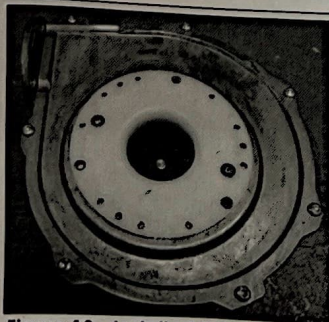

Figure 10 - Installed Adapter Plate
Step #1 - Use a Phillips Head screwdriver and the two (2) removed screws to install the adapter plate to the replacement blower. Do not over-tighten the screws. See Figure 10.